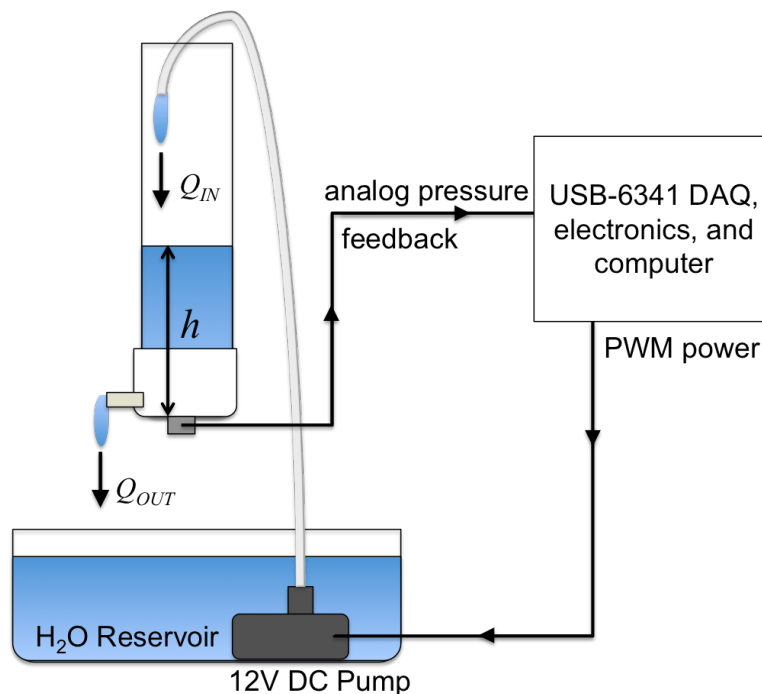

Figure 1 – Feedback from an analog pressure transducer is used to control the height in a flow-through water tank.
In this lab, you will implement several different methods to control the water level in a flow-through tank. Shown in Figure 1, the tank is continuously drained into a reservoir and replenished by a 12V DC submersible pump. The volumetric flow rate out of the tank Q_{OUT} is related to the hydrostatic pressure $p = \rho gh$ by Poiseuille's Law
5. Fill the bottom reservoir with water from the sink. Submerge the pump, and run the outlet tube from the top of the pump up and into the tank, as shown in Fig. 1.